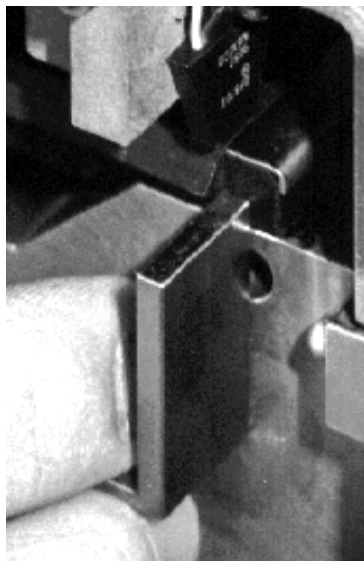

Figure 6-7 Scanhead / Tray Gap Relationship
6. Using either the **I** key (Scanner in) or the **O** key (Scanner out) move the Scanner so that the right side of the Scanhead is flush with the right side of the Tray . (Each key press of **I** or **O** moves the scanner motor one step). This can be checked by placing the edge of the Tray/Sensor Alignment Tool against the right side of Scanhead and sliding it up to the Tray to see how it meets the edge of the Tray (see Figure 6-7).